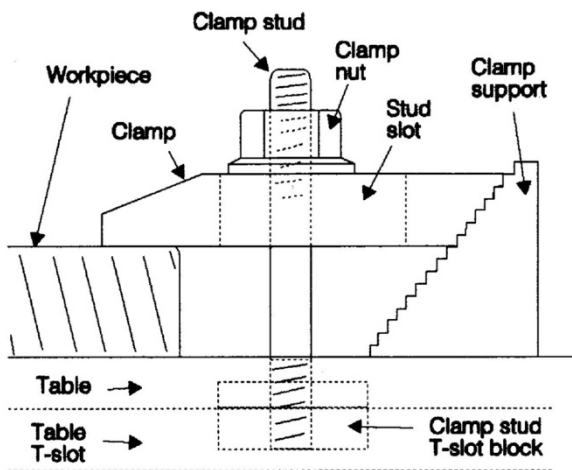

Figure 18
- Using the wrench provided with the machine, loosen the draw bar two or three turns (turn counterclockwise) using the draw bar hex (Figure 18).